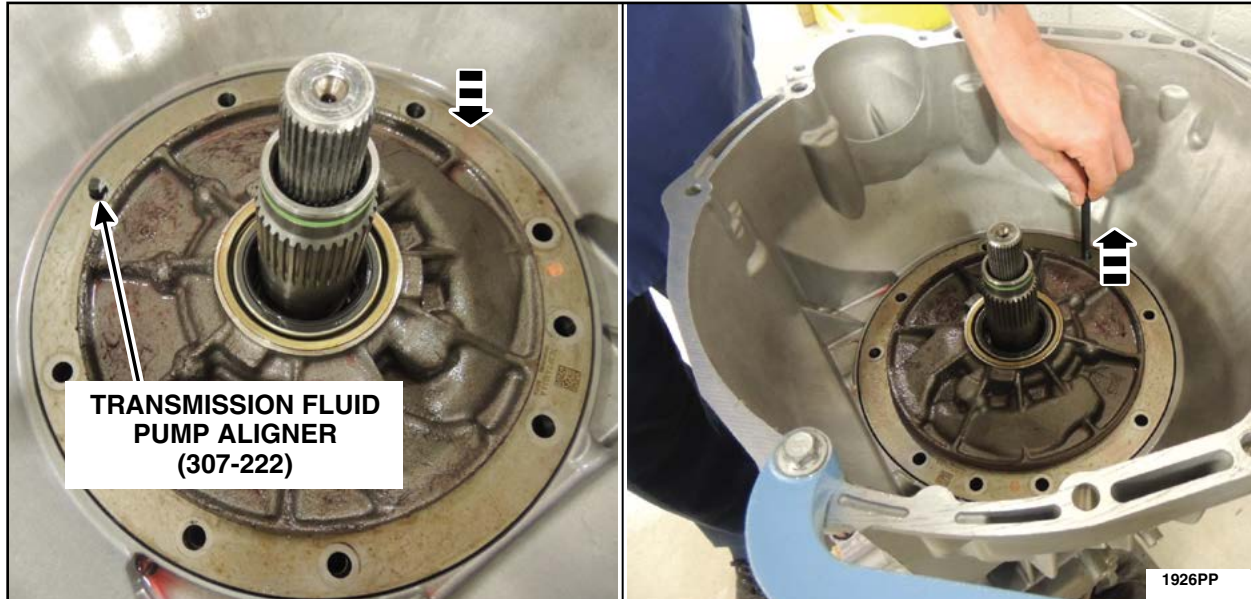

FIGURE 45
43. Using the Transmission Fluid Pump Aligner (307-222), install the front pump assembly with the transmission in a vertical position to avoid damage to the pump stator support Teflon® seals and then remove the Transmission Fluid Pump Aligner. See Figure 45.